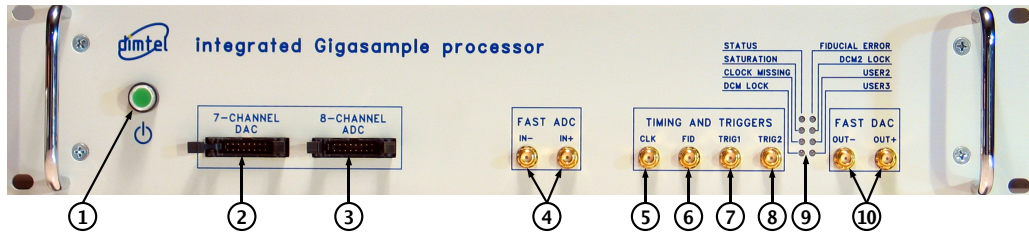

Figure 2: Front panel features
2. Connect **RF** clock at -3 dBm nominal level (Fig. 2, item 5);
3. Connect single-ended high-speed **ADC** input signal to **Ain+** (Fig. 2, item 4). The **FS** swing of this signal should be 190 mV peak-to-peak;
4. Connect a $50\ \Omega$ terminator to **Ain-** (Fig. 2, item 4);
5. Connect high-speed **DAC** output(s) (Fig. 2, item 10) to the appropriate back-end unit;
9. Push the power button (Fig 2, item 1) to turn on the system;
11. Push the power button (Fig 2, item 1) to turn the system off;
- Connect the 16-pin ribbon cable between the 7-channel **DAC** (Fig. 2, item 2) and the 8-channel **ADC** (Fig. 2, item 3);
- Connect 499.654 MHz clock to the **RF** clock input (Fig. 2, item 5);
- Terminate `Ain-` fast **ADC** input (Fig. 2, item 4);
- Terminate `Aout-` fast **DAC** output (Fig. 2, item 10);
- Make sure fiducial input is not driven (Fig. 2, item 6);